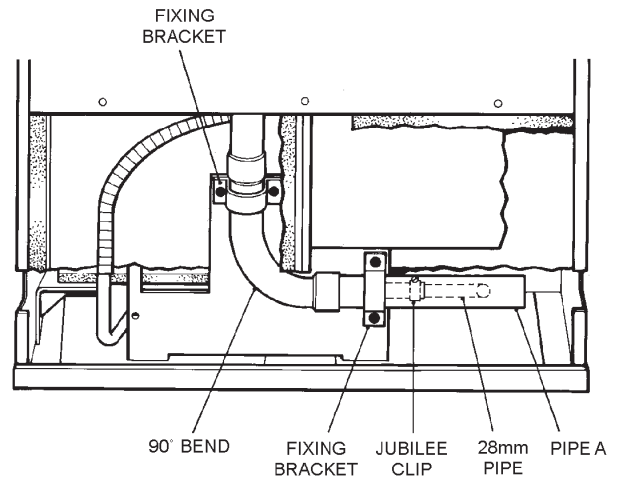

Fig. 5
2. Unscrew the two fixing brackets and remove. (See Fig. 5).
3. Slacken the jubilee clip, fixing flexible pipe to horizontal pipe (A). (See Fig. 5).